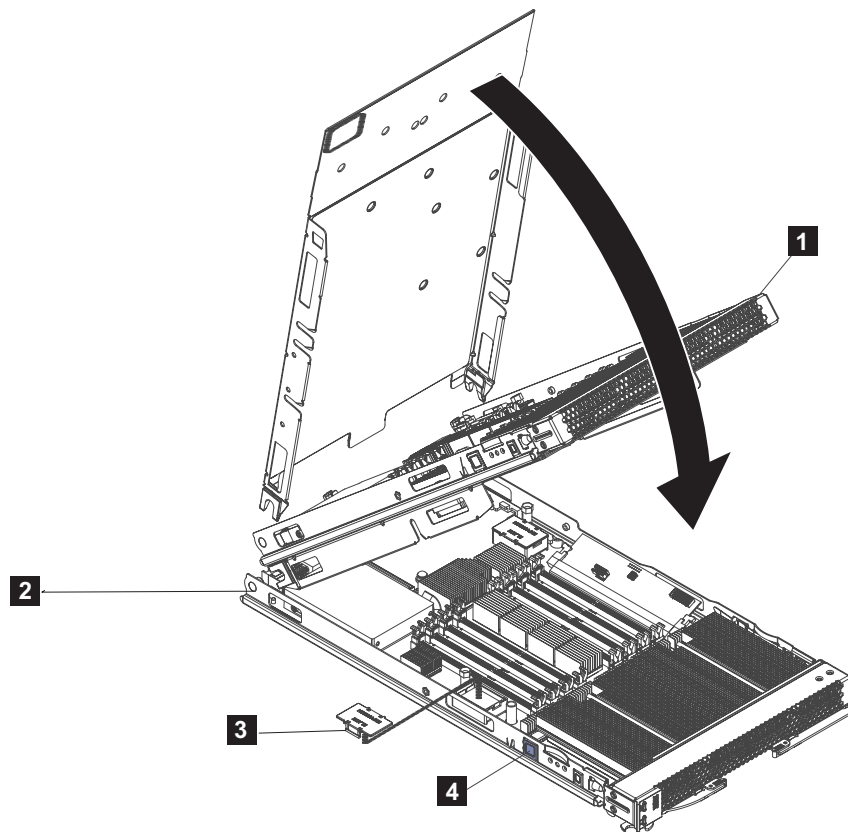

Figure 17. Installing the expansion unit
5. Remove the expansion connector cover, as shown by **3** in Figure 17.